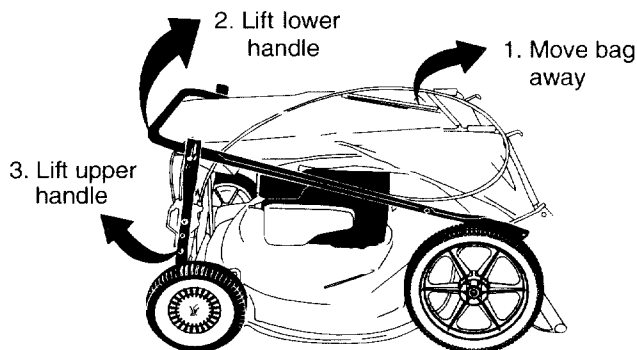

Figure 1
- Remove the grass catcher from the unit and set it out of the way. See Figure 1 (step 1).
- Raise the lower handle in the direction shown in Figure 1 (step 2) till it snaps into place.
- Raise the upper handle in the direction shown in Figure 1 (step 3). Tighten the wing nuts which are already on the handle.